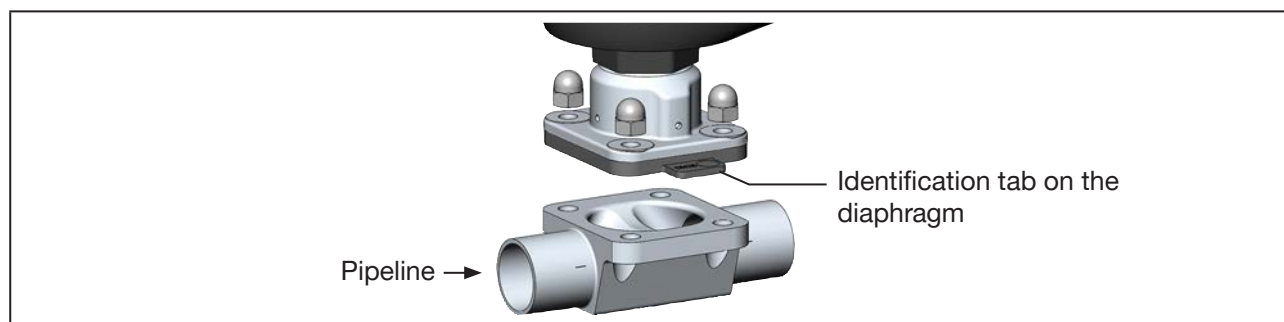

Figure 17: Aligning the diaphragm (example 2-way body)
The identification tab on the diaphragm must protrude out of the valve body at right angles to the longitudinal axis of the pipeline (see “Figure 17”).
→ Align diaphragm. The identification tab on the diaphragm must protrude out of the valve body at right angles to the longitudinal axis of the pipeline (see “Figure 17”).
-  Before installing the actuator, check whether the diaphragm is free of damage and correctly aligned. The mark tab of the diaphragm must protrude from the valve body at a right angle to the longitudinal axis of the pipeline (see “Figure 17”).